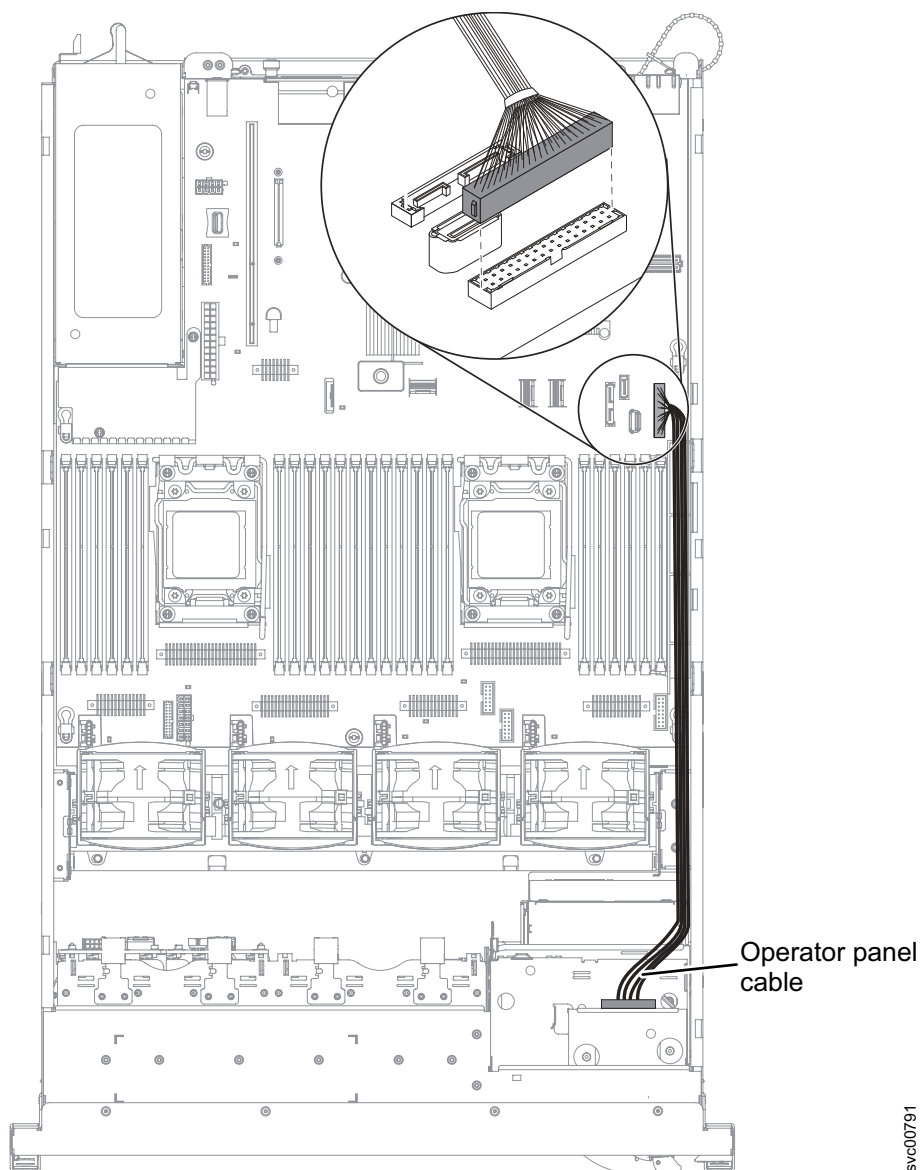

Figure 169. Removing the 2145-DH8 operator-information panel cable
3. Remove the cable from the connector on the right side of the node, as shown in Figure 169 on page 203.